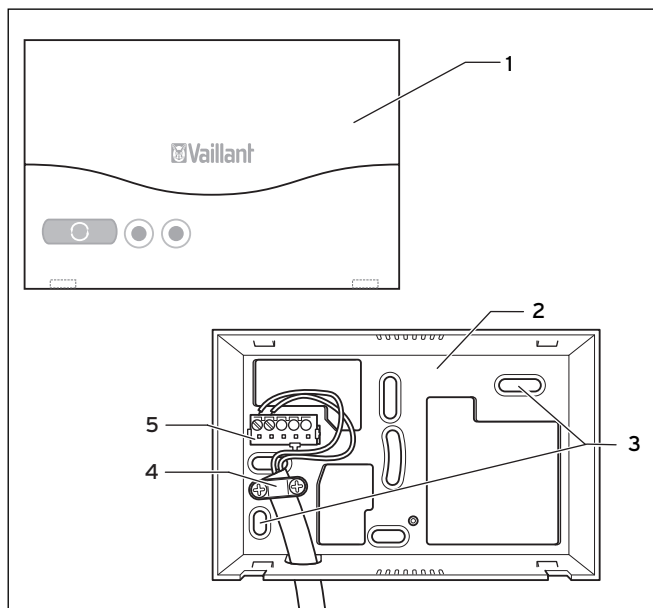

Fig. 4.1 Mounting the receiver
- ⇒ Connect the eBUS cable to the terminal strip (1) of the wall socket for the radio receiver unit.
- ⇒ Install the strain relief (4, Fig. 4.1).
- ⇒ Connect the eBUS cable to the terminal strip of the appliance (2).